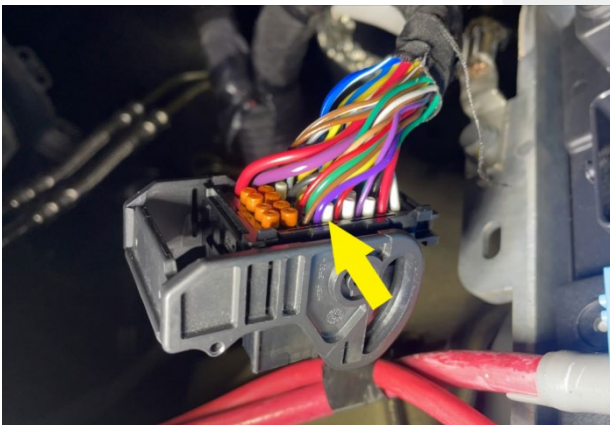
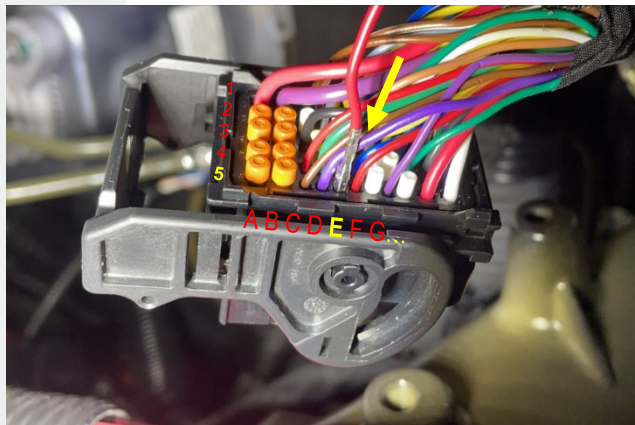

Figure 19
Figure 20
- **Model X Palladium:** Remove the plug from receptacle E5 (Figure 19), and insert the terminal into receptacle E5 (Figure 20)